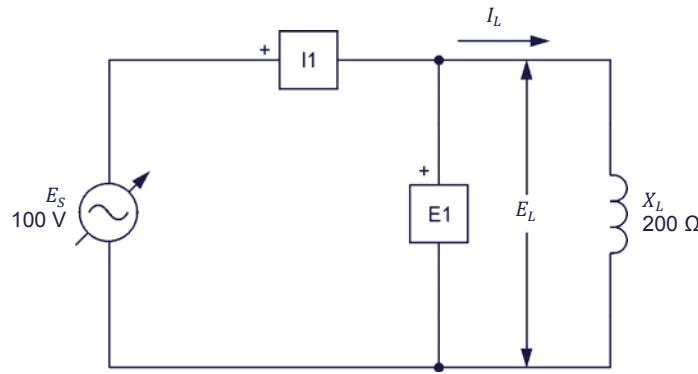

Figure 3-6. AC circuit containing an inductor and set up for power measurements.
**22.** Set up the circuit shown in Figure 3-6.